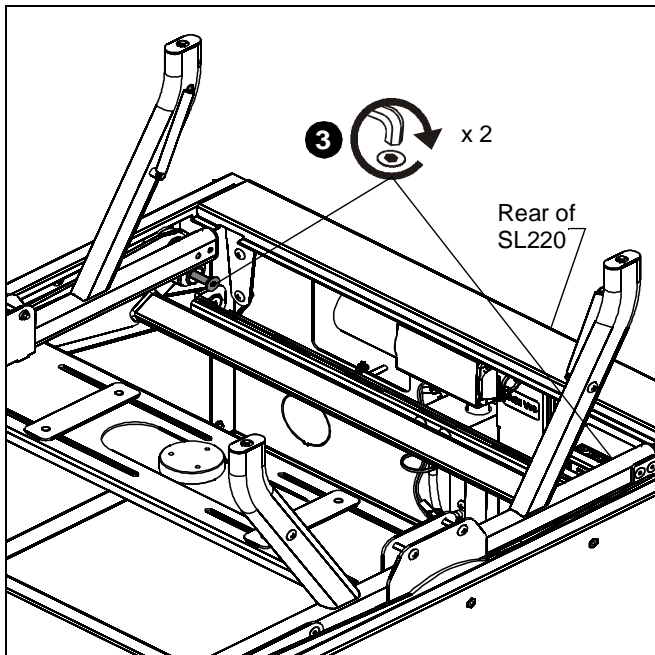

Figure 19
2. Line up rear spacers with attachment holes on SL220 arms. (See Figure 19)